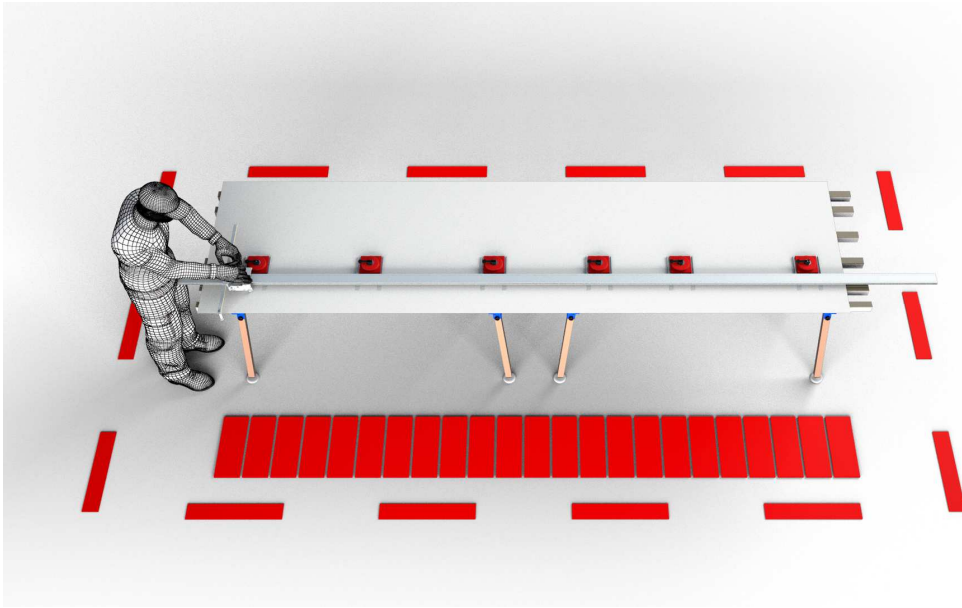
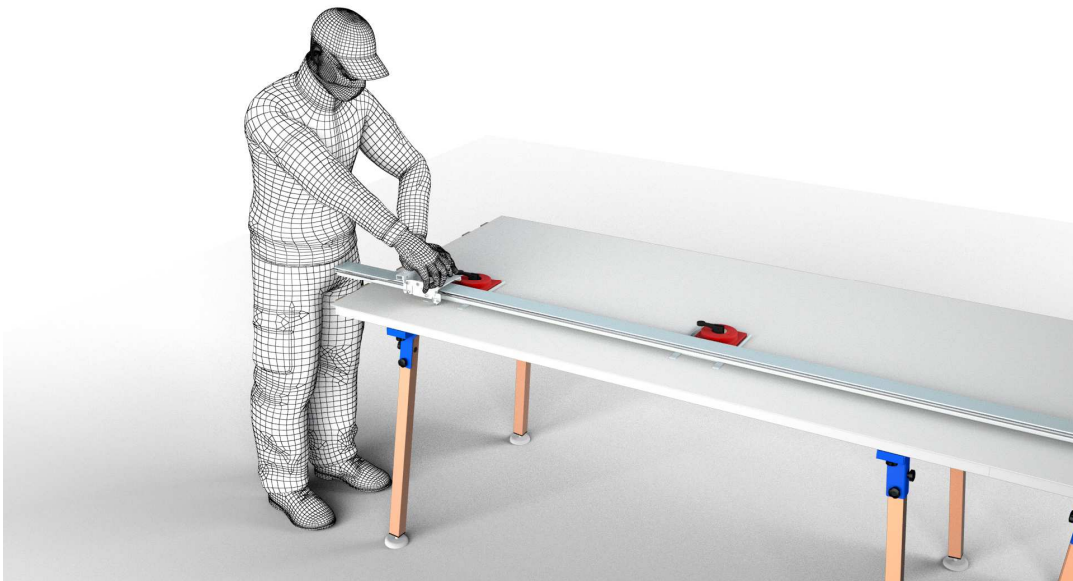

Fig. 6.1 Operator's working area
Fig. 6.3 Machine operation
The machine must be positioned to comply with the minimum clearances specified in figure 6.1 "necessary clearance".
The machine must be installed in an area which allows the operator's freedom of movement when in use. To this end, a position with a clearance on all 4 sides of the machine of at least 1 metre is considered suitable. When using the machine, the operator must move along the guide (see fig.6.1), holding the cutter knob in one hand and placing the other on top of the carriage (see fig.6.3).
10. Cut quickly and constantly, pressing on the knob with one hand and on the carriage with the other, as shown in fig.6.3.